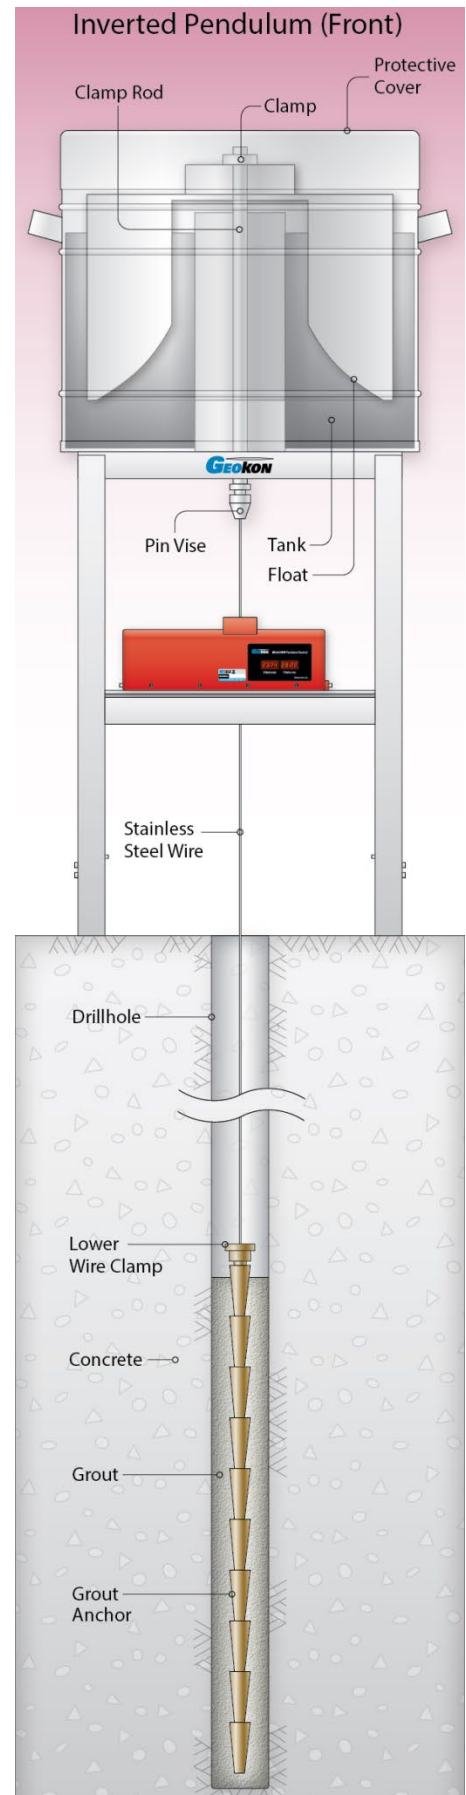

Figure 23 - Inverted Pendulum System
- 29) Carefully lower the cabinet onto the readout table, making sure the Z-block does not scratch the photosensitive screens inside the CCD chamber while doing so. Align the Velcro strips on the bottom of the cabinet with the ones on the mounting surface. Figure 23 depicts the assembly thus far.